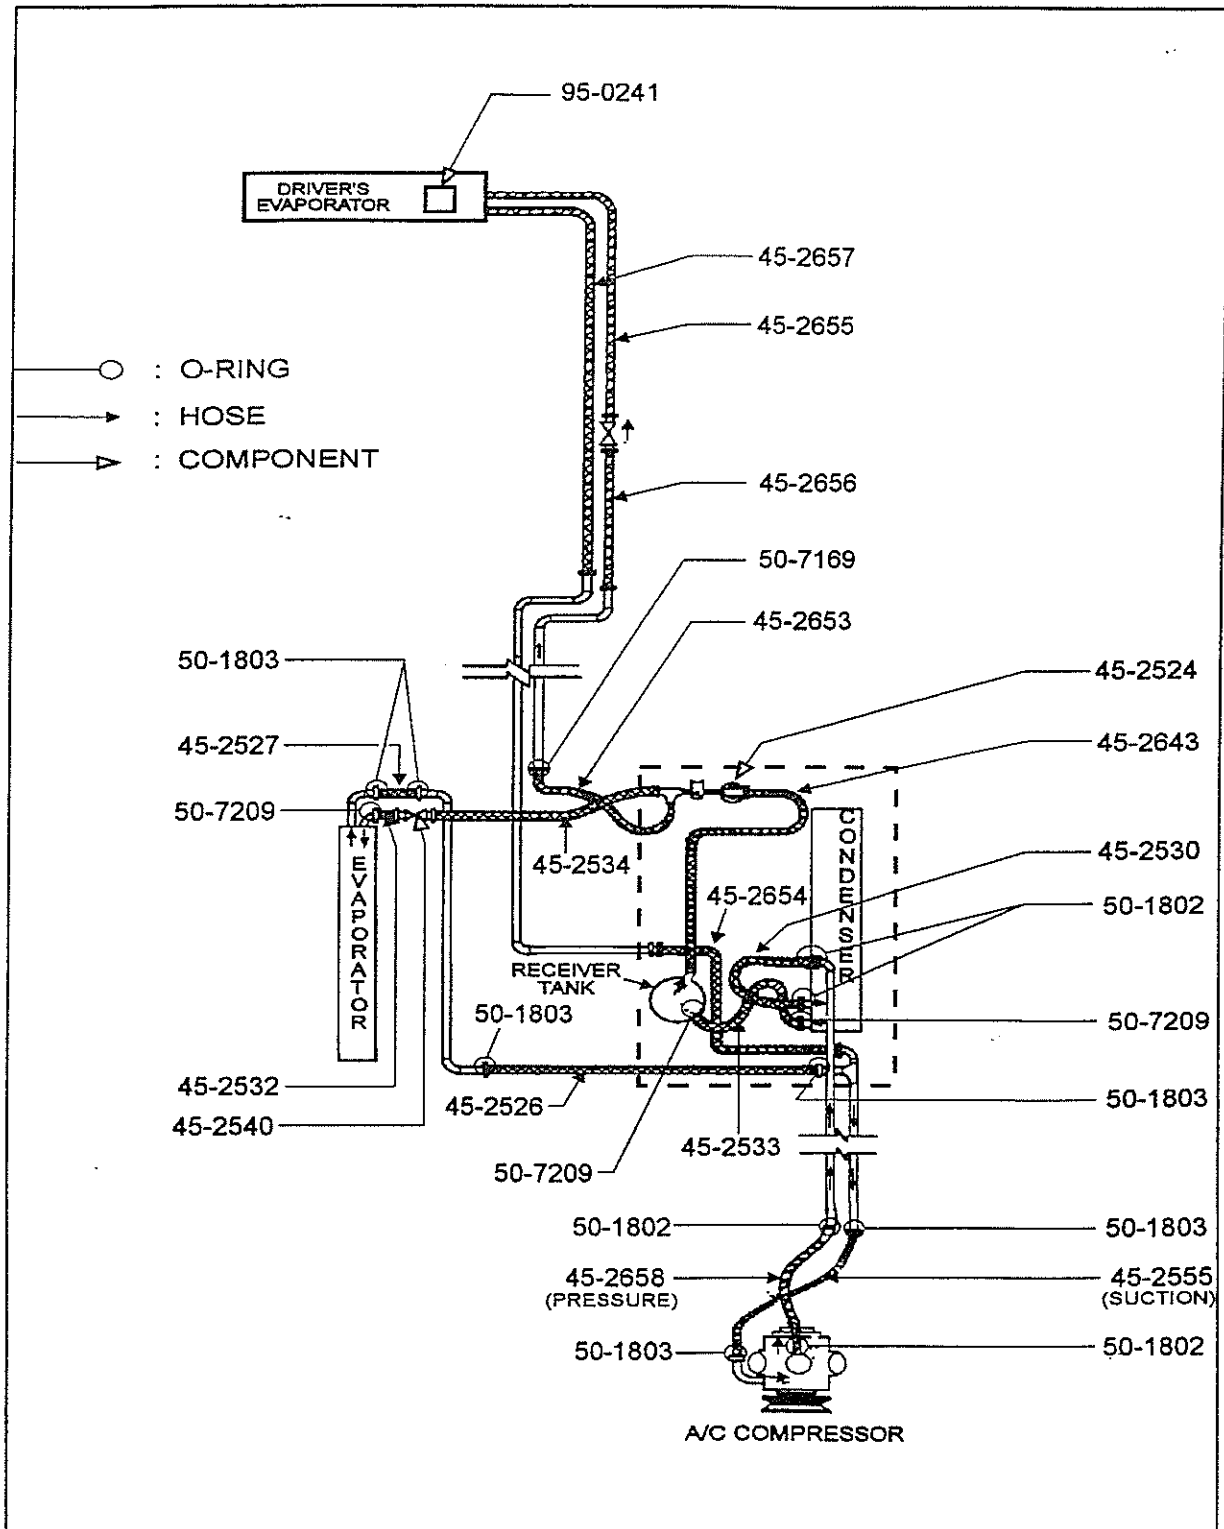

Fig. 7
7. Replace Evaporator Outlet hose. Replace the O-rings with the new O-rings from the kit. Refer to figure 7 for hose and O-ring identification and location.
1. Replace the hoses in the condenser compartment. Replace the O-rings at the hose connections with the new O-rings from the kit. Refer to figure 7 for hose and O-ring identification and location.